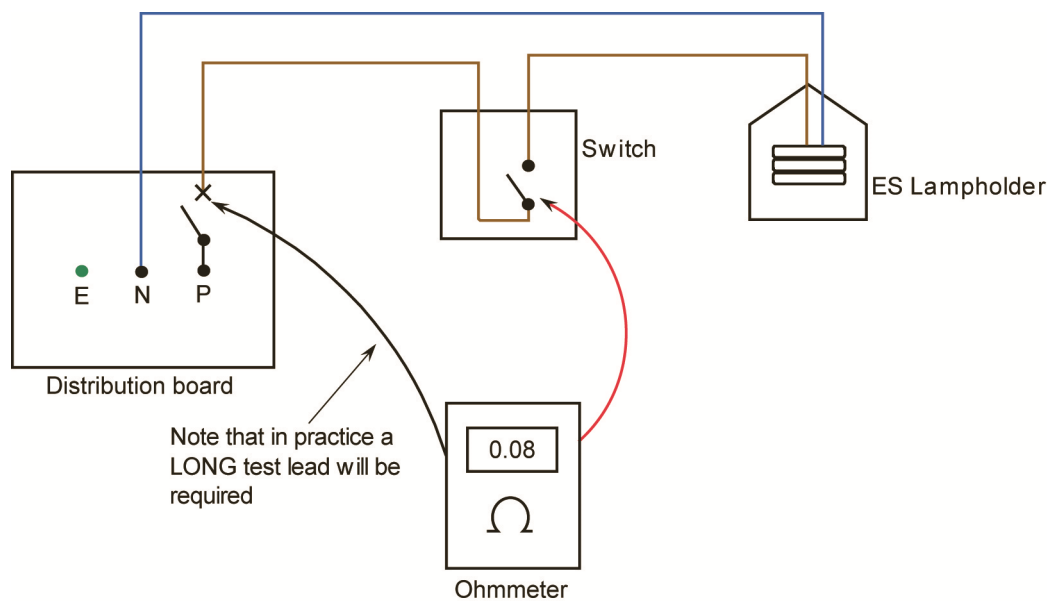
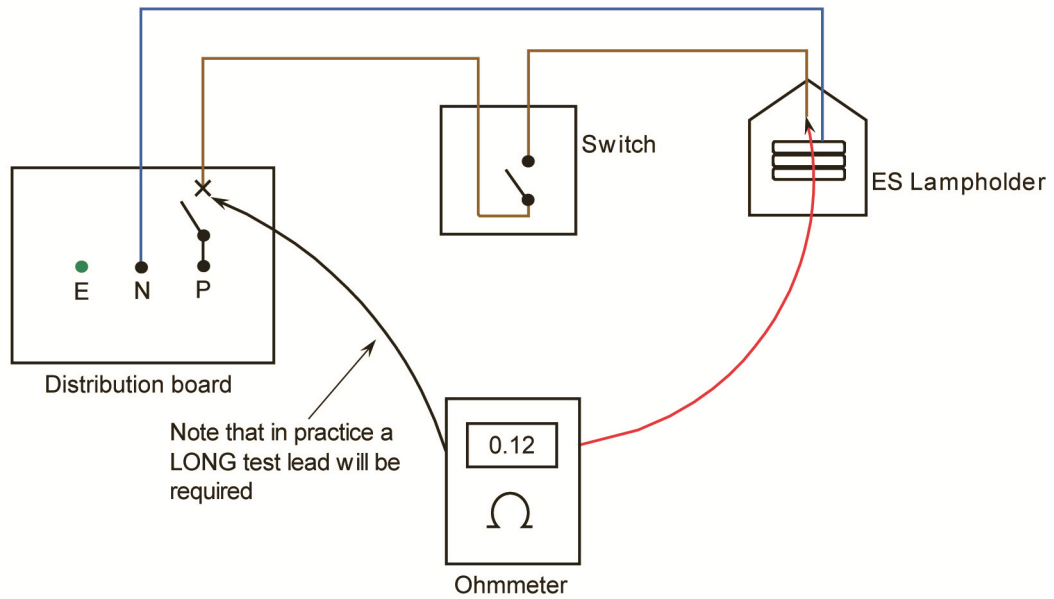

Figure 56.
Figure 57.
A “**polarity test**” must be done on all lighting circuits when new or after an alteration has been made. This is to ensure that the phase conductor is connected to the FUSE or MCB and single pole switches, rather than the neutral. See Figure 56. Any Edison Screw type lampholder should also be checked to ensure that the phase conductor is connected to the centre contact and the neutral to the screw contact,. See Figure 57.
- Connect the other lead to the switch feed terminal. See Figure 56.
- Move lead to the ES centre contact. See Figure 57.